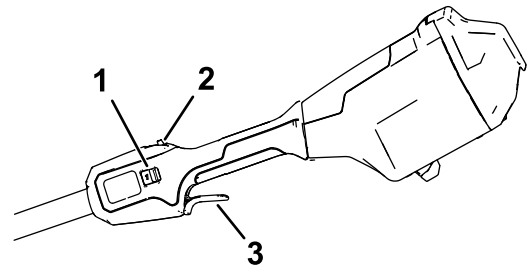

Figure 9
5. To start the machine, push the trigger lock, then squeeze the run trigger (Figure 9).